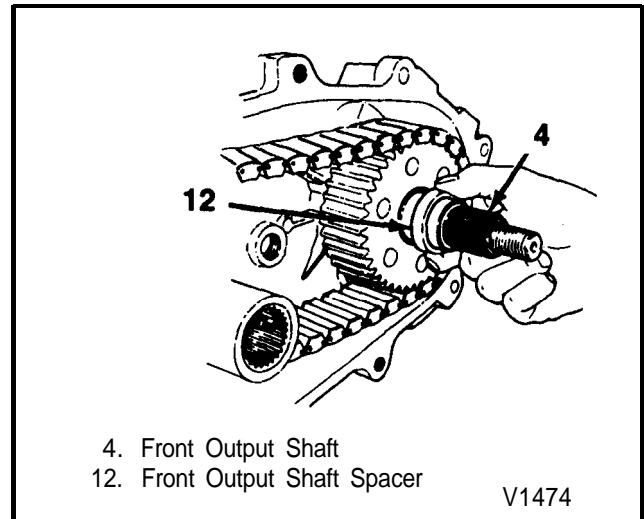

Figure 29 - Installing the Front Output Shaft Spacer
14. Front output shaft spacer (12) onto the front output shaft (4) (figure 29).
15. Magnet (15) to the rear case half (10).
- Apply a 3 mm (1/8-inch) bead of Silicone Rubber Sealant (Loctite™ 598, GM part number 9985675) or equivalent to the rear case half (10) front cover sealing surface.